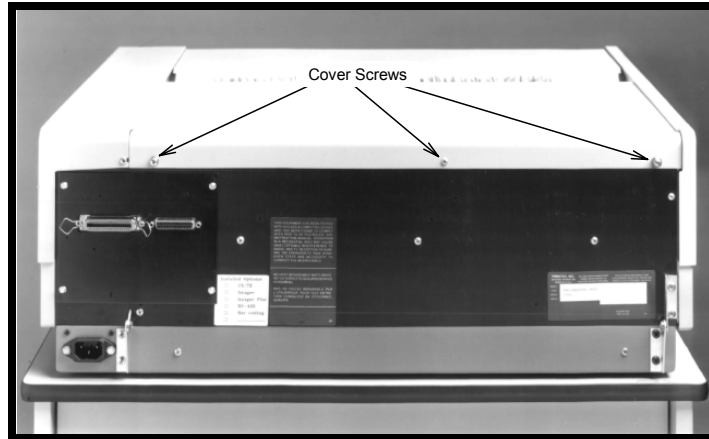

Figure 1
2. Remove the printer's electronics cover by removing the three screws securing the cover to the rear of the printer as indicated in Figure 1, and slide the cover toward the rear of the printer until it exits the mounting slots. Keep the old cover in case you ever decide to use the printer again without the FormsCutter.
2. Install the three screws which previously held the electronics cover in place see Figure 1.
4. Remove the three screws securing the FormsCutter chassis to the printer (refer to Figure 1).